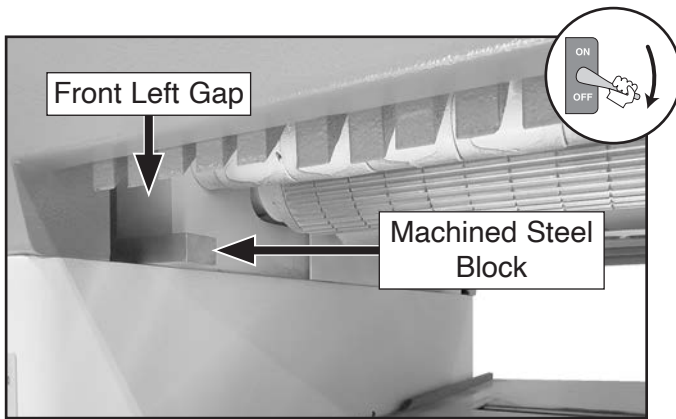

Figure 90. Steel block placed in front left gap of machine body.
3. Place a precision machined steel block in gap on front left side of machine body, as shown in **Figure 90** on **Page 64**.